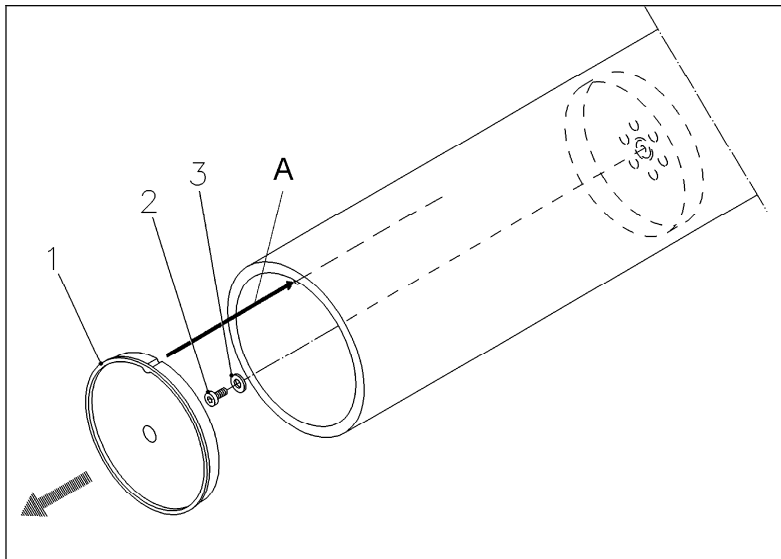

Figure 040-2: Roller Removal
5. Pull off the roller end cap (Figure 040-2, Item 1).
6. Remove the retaining screw (T30) and washer (Figure 040-2, Items 2 and 3) from the interior of the roller.
8. When replacing the end cap, ensure that its notch aligns with the tab on the interior of the roller. See Figure 040-2, Item A.